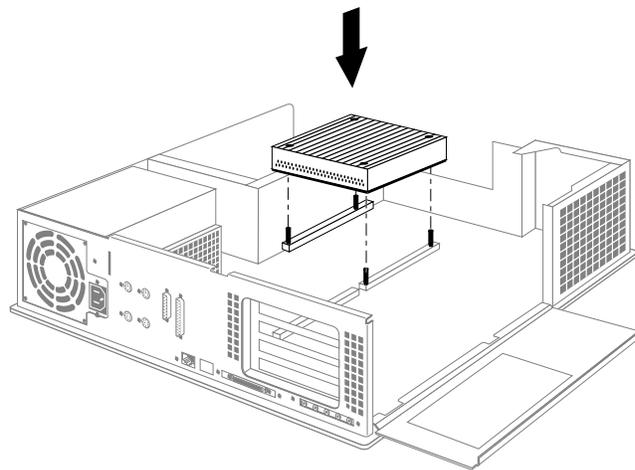

Figure 8 Installing the CPU module.
- Position the new module so that the connector on the bottom of the module aligns with the socket on the board, as shown in Figure 8.